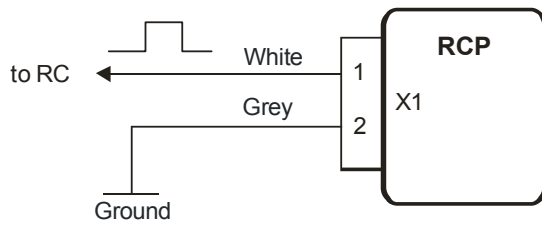
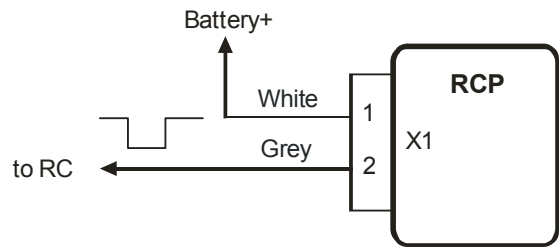

Figure 4
Figure 5
- The fig.4 presents the scheme to turn off the heater by the impulse of positive polarity. The fig.5 presents the scheme to turn off the heater by the impulse of negative polarity.